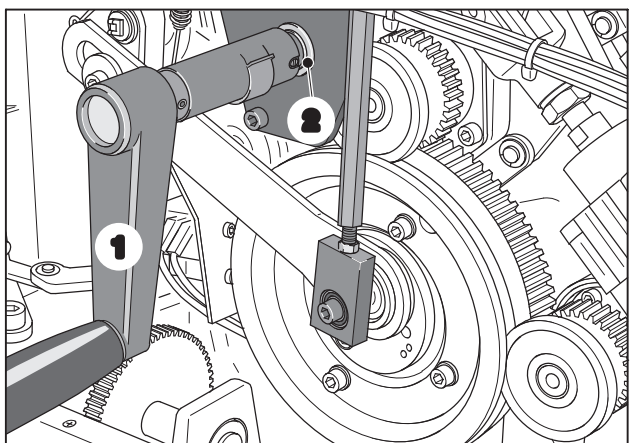

Fig. 11 Turning the press by hand
1. Side frame O.S.: Open the protecting door above the control console. Above the control console, there is a supporting device (Fig. 11/2) for the crank handle.
2. Plug the crank handle (Fig. 11/1) onto the supporting device (Fig. 11/2). You can crank the press now.